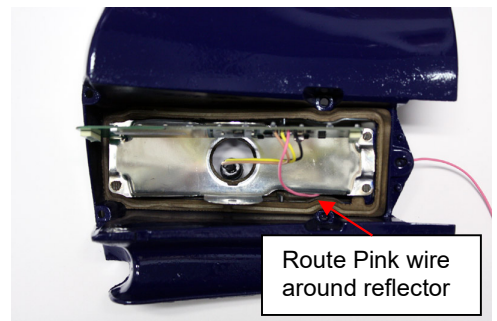

Figure 3
- 4.1. If the Pink wire grommet was installed, pass the wire Pink wire from the LED panel, around the reflector and through the grommet hole. (See Figure 3)